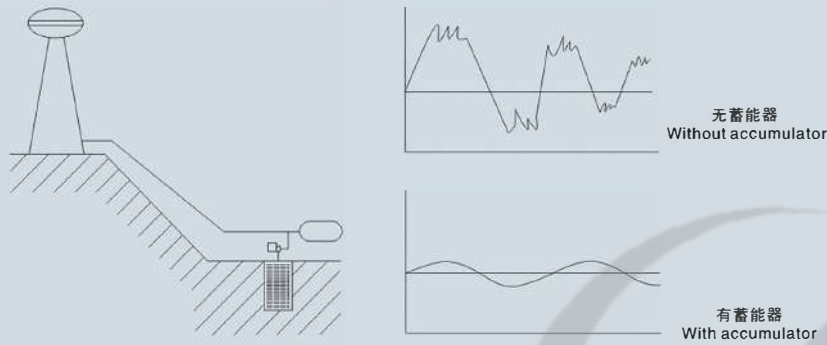

图7 Fig.7
5、阀的快速关闭会产生冲击波(水锤现象)，导致管子、接头、阀等部件的损坏。使用蓄能器能大大地减少冲击。典型用途为水管(图7)、燃油和油的远距离管路、洗涤设备等。
Rapid valve closure can produce shock waves(water hammer)resulting in over pressurization of pipes, joints, valves etc. The use of a suitable accumulator can neutralize or significantly reduce the shock, Typical applications are water(fig.7), fuel and oil distribution circuits, washing equipment etc.